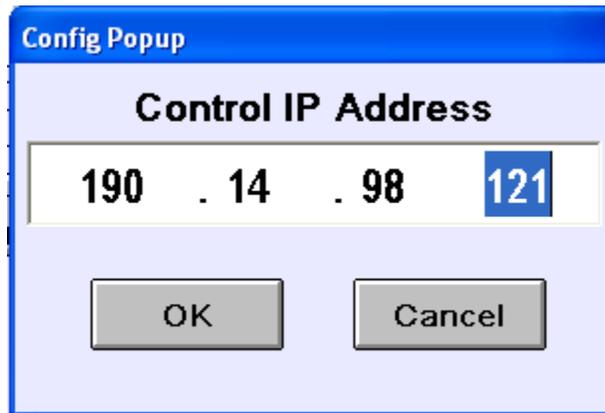

Figure 2-26. Add Control Configuration Pop-up
- b. Go to the System Configuration screen shown in Figure 2-16 and select Add Control to List. In the configuration pop-up, enter the appropriate IP Address as shown in Figure 2-26.